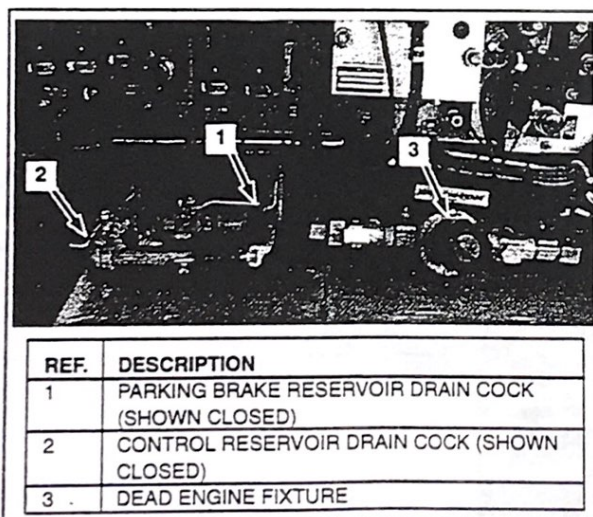

FIG. 27. CONTROL AIR AND PARKING BRAKE RESERVOIR CUT-OUT COCKS. E-42743.
The dead engine fixture (Item 3, Fig. 27) provides Brake Pipe (BP) air to the Main Reservoir Pipe (MR) of a locomotive being hauled dead-in-train. This air supply allows the brakes of the dead locomotive to operate.
8. Parking Brake Reservoir Drain cock – Located in air brake compartment (Item 1, Fig. 27) and accessed from outside locomotive.
9. Control Air Reservoir Drain cock – Located in air brake compartment (Item 2, Fig. 27) and accessed from outside locomotive.